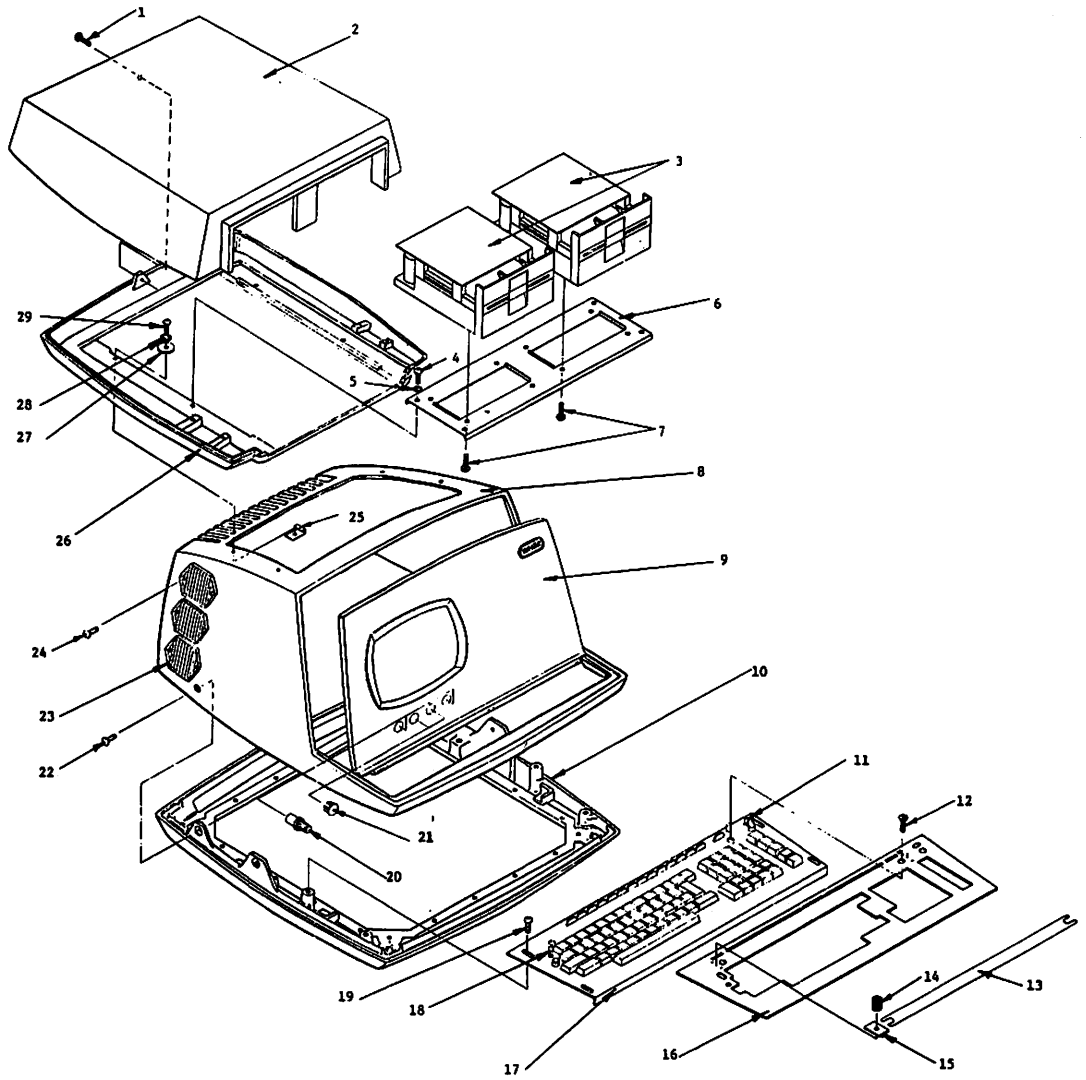

FIGURE 6-2
1. Remove the molded mini-floppy cover and dummy panel (one screw @ rear of mini-floppy cover; see item 1, Figure 6-2).
2. Remove the four screws which secure the disk mounting plate to the molded mini-floppy base (see item 4, Figure 6-2).
6. Install the optional mini-floppy in the empty mounting slot on the disk mounting plate with four screws (item 7, Figure 6-2).
7. Replace the disk mounting plate with two mini-floppy drives into the molded mini-floppy base; resecure with four screws (item 4, Figure 6-2).